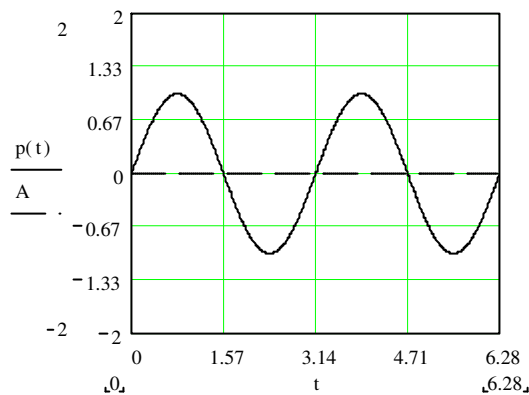

Figure 1c
- Bottom Figure 1c – Pure inductive load or 0 power factor.